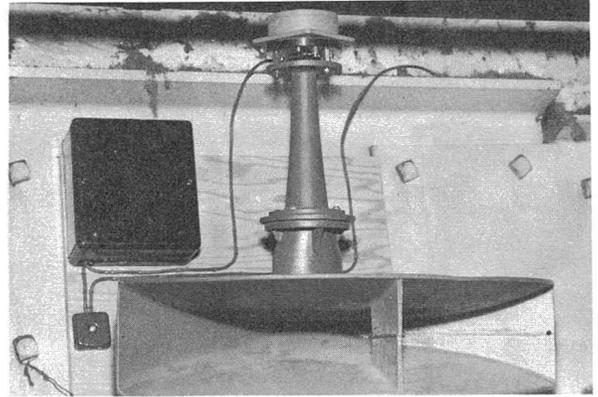

Figure 55 - Western Electric KS14705, KS14707 and KS14704 assembled
3.73 The KS-14705 horn is an 8-ohm, 30-watt loudspeaker with a dispersion angle of  $120^{\circ}$ . This loudspeaker is composed of three parts as shown in Figure 55. The lower fan-shaped part of the speaker is called the KS-14705 horn. The thin neck on top of this section is called the KS-14707 receiver attachment. The driving unit which mounts on the top of the thin neck is called the KS-14704 receiver. The line matching transformer is mounted on the adjacent GB-3613 bracket. The line matching transformer may also be mounted in the 790053GB, pole box. It is suitable for indoor or outdoor use, and completely assembled, this unit weighs 15 pounds.